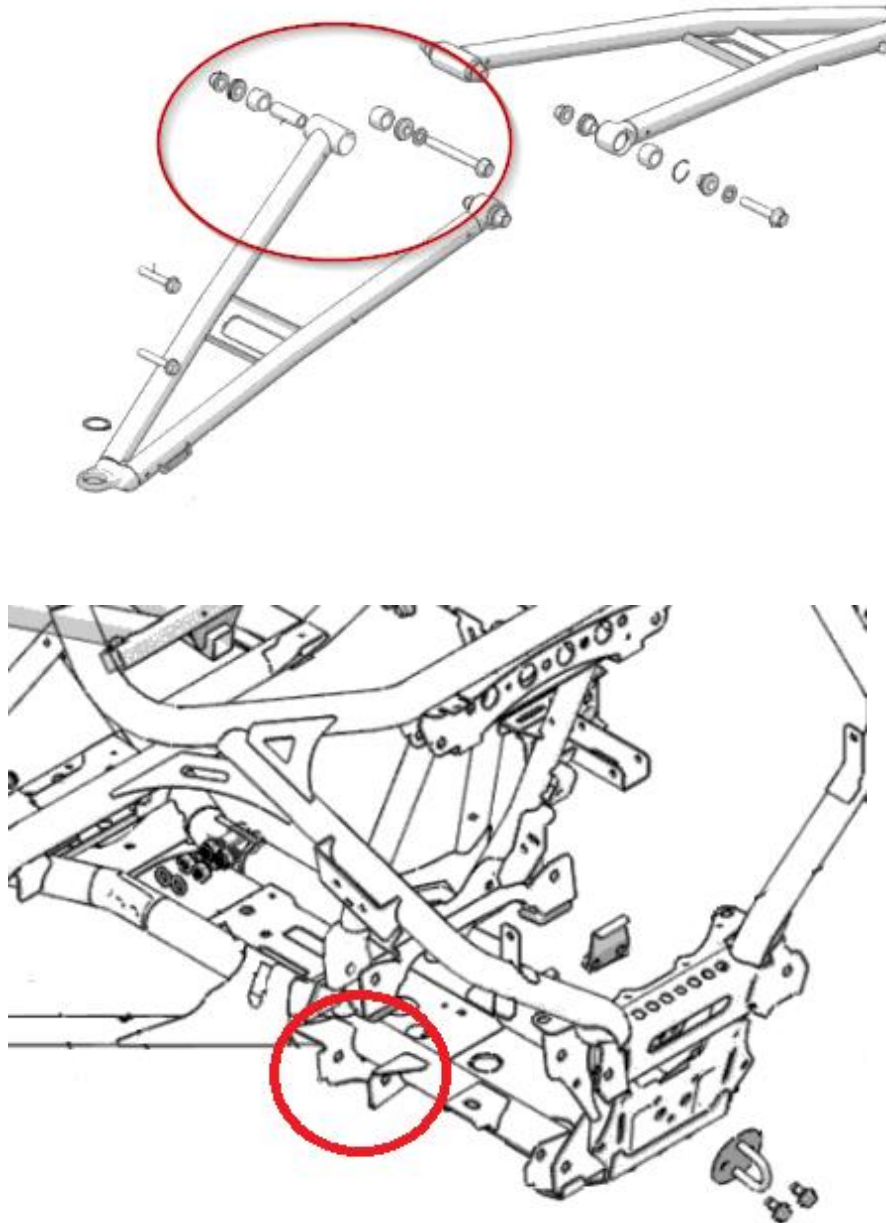

Figure 4
3. Remove the two rear lower control arm mounting bolts. and set hardware aside for future use, as shown in Figure 4.